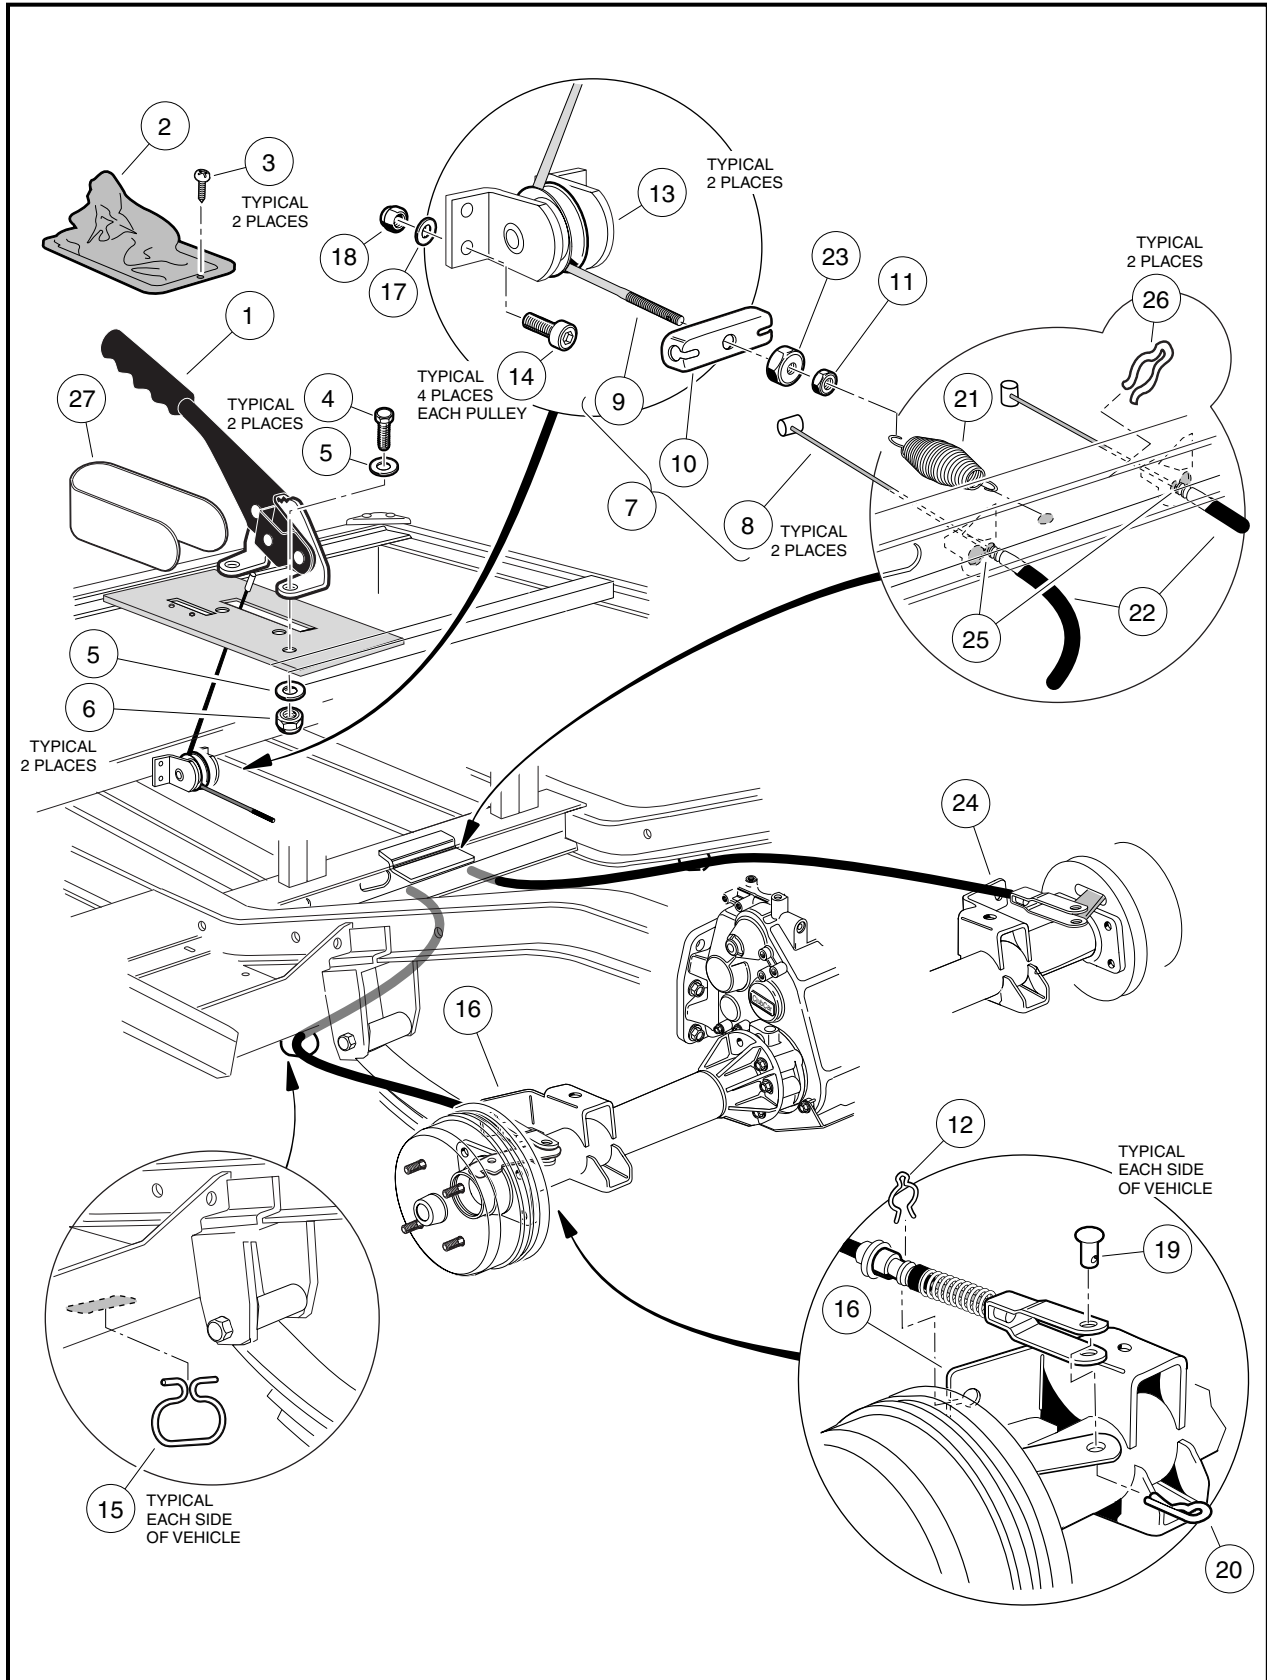

Figure 6-27 Park Brake System
2. Remove the two screws (3) that secure the park brake boot (2) to the seat support (**Figure 6-27, Page 6-37**).
3. Slide the boot (2) off of the park brake handle (1).
4. Remove the boot shield (27) from the park brake handle.
5. Remove the equalizer spring (21) from the equalizer cable (9).
6. Remove the equalizer jam nut (11) and conical nut (23) from the cable end (9).
7. Remove the end of the park brake cable from handle (1) by pushing the equalizer cable in an upward direction and pulling the cable end toward the passenger side of the vehicle.
2. Remove the four #10-24 x 3/4-inch socket-head screws (14), lock nuts (18) and washers (17) from frame and remove the assembly (**Figure 6-27, Page 6-37**).
1. Loosen the equalizer jam nut (11) and the conical nut (23) to provide slack in the wheel brake cables (**Figure 6-27, Page 6-37**).
3. Remove the cable clip (26) from a wheel brake cable (22) at the vehicle frame (25) (**Figure 6-27, Page 6-37**).
4. Remove a park brake cable clip (12), hair spring cotter pin (20) and clevis pin (19).
6. Slide the cable through the frame hanger (15) and remove the cable from the vehicle.
1. Align the equalizer cable pulley assembly (13) with the mounting holes in the frame (**Figure 6-27, Page 6-37**).
2. Install the four 10-24 x 3/4-inch socket-head screws (14), flat washers (17) and lock nuts (18) and tighten to 54 in-lb (6.1 N·m).
1. Thread the equalizer cable (9) up between the pulley and frame, through the top seat support slot and hook the end of the cable into the handle (1) clevis slot from the passenger side (**Figure 6-27, Page 6-37**).
2. Assemble the equalizer bracket (10) onto the threaded end of the equalizer cable (9).
3. Attach the conical nut (23) and equalizer jam nut (11) to the threaded end of the equalizer cable.
4. Attach the equalizer spring (21) from the equalizer cable to the frame.
5. Slide the boot shield (27) around the park brake handle.
6. Slide the boot (2) over the handle and down around the boot shield and onto the seat support.
7. Attach the boot (2) using two 5/16-18 phillips head screws (3).
1. Slide a cable (22) through the frame hanger (15) (**Figure 6-27, Page 6-37**).
2. Attach the cable clevis and wheel brake lever using the clevis pin (19) and hair spring cotter pin (20).
3. Attach the cable (22) to the cable support bracket (16 or 24), using a wire clip (12).
4. Attach the opposite end of cable (22) through a frame bracket notch (25) and secure with a wire clip (26).
5. Pull the end of the brake cable (8) up and into a keyhole opening in the park brake equalizer bracket (10).
2. Remove the two bolts (4), four washers (5) and two lock nuts (6) from the park brake handle (**Figure 6-27, Page 6-37**).
3. Remove the park brake handle (1) from the seat support.
1. Attach the handle (1) to the seat support using two 3/8-16 x 1-1/4-inch hex-head bolts (4), 3/8 flat washers (5) and 3/8-16 lock nuts (6) (**Figure 6-27, Page 6-37**). Tighten the nuts to 23 ft-lb (31.4 N·m).
3. Loosen the equalizer jam nut (11) and the conical nut (23) to provide slack in the wheel brake cables (**Figure 6-27, Page 6-37**).
5. With the park brake released (down), tighten the conical nut (23) until significant resistance is observed in the equalizer cable in order to fully lock the brakes (**Figure 6-27, Page 6-37**).